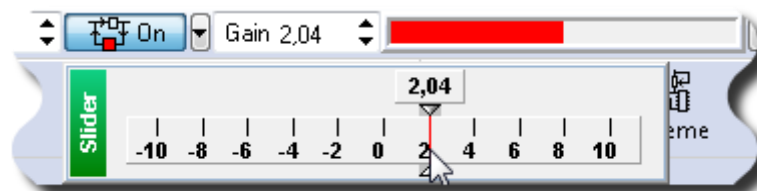

Fig. 12-24. Adjusting slider of the **Gain**
- a. Double-click on the **Gain** field (Fig. 12-24).